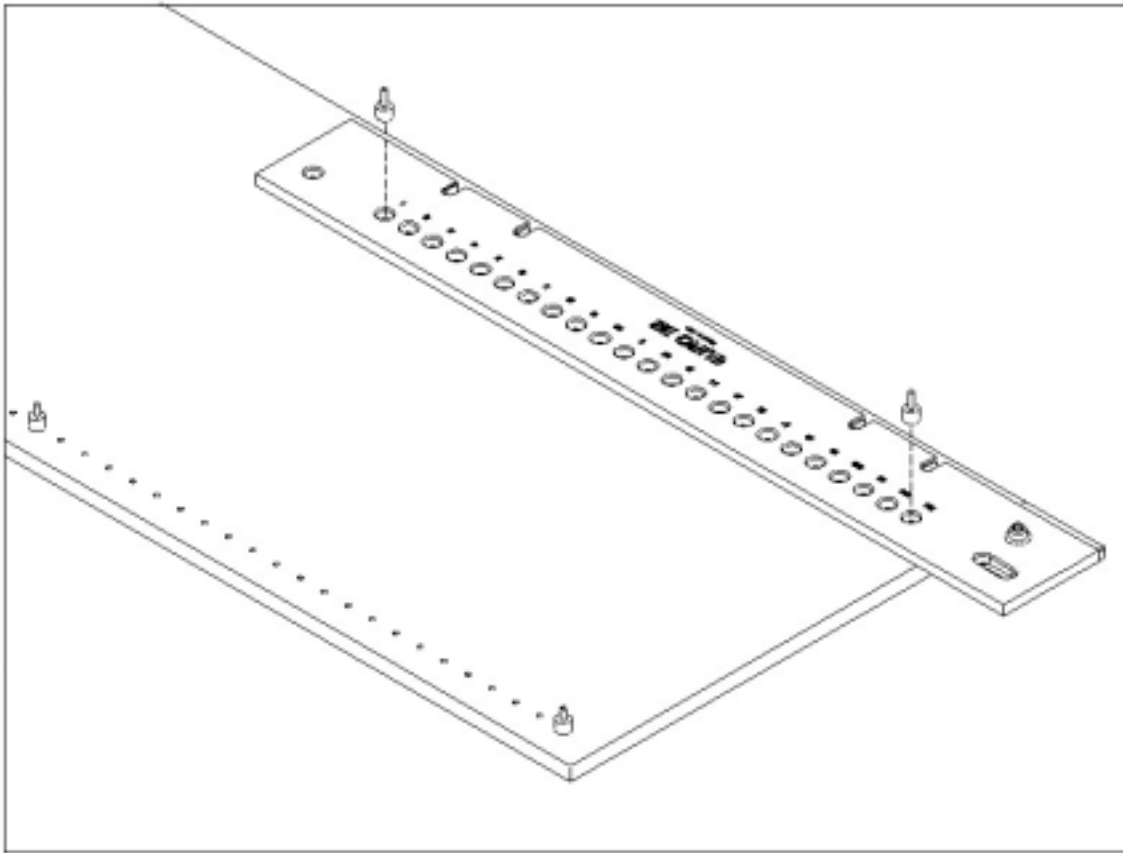

Figure 17
4. Insert the parallel-pins in holes 1 & 23 of the hole-boring template as shown in Figure 17.